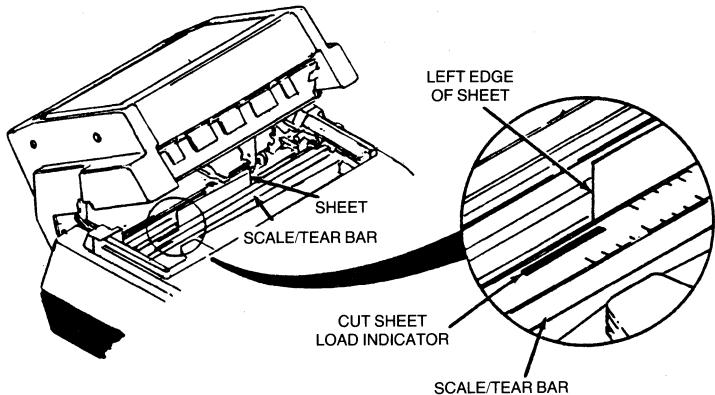

Figure C-8 Adjusting the Sheet Feeder.
4. Lift the feeder body up and note how the left edge of the sheet that is in the printer lines up with the right edge of the cut sheet indicator on the silver scale tear bar (see Figure C-8).